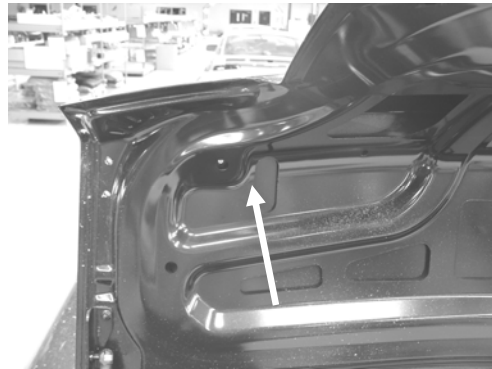
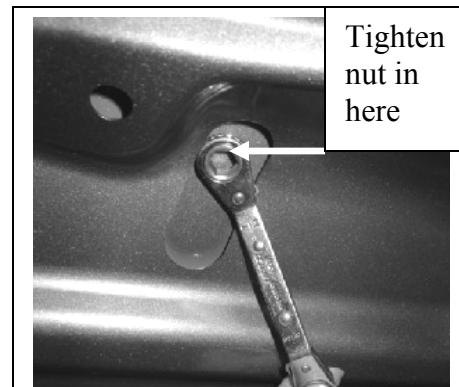
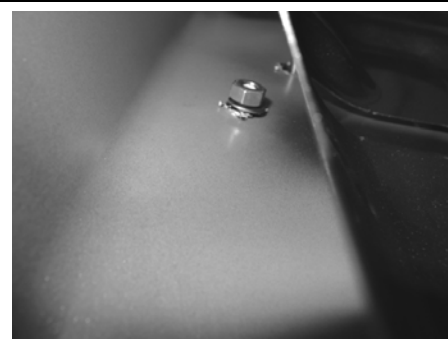

Figure 22
Figure 23
Figure 24
26. Place one washer (00-9004-C11804*) and one hex nut (00-9003-C11803*; use red Loctite) over each (2 total) of the furthest inboard studs (those that are not easily visible) and tighten with an angled ratcheting 7/16" wrench (Figure 23 is a close-up of Figure 22; Figure 24 is a view of the inside of the deck lid, and shows the nut on the studs). **Torque the nuts to 5 lb-ft.**